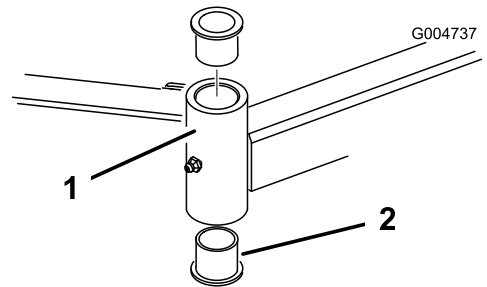

Figure 96
4. Insert a pin punch into the top or bottom of the mounting tube and drive the bushing out of the tube (Figure 96).